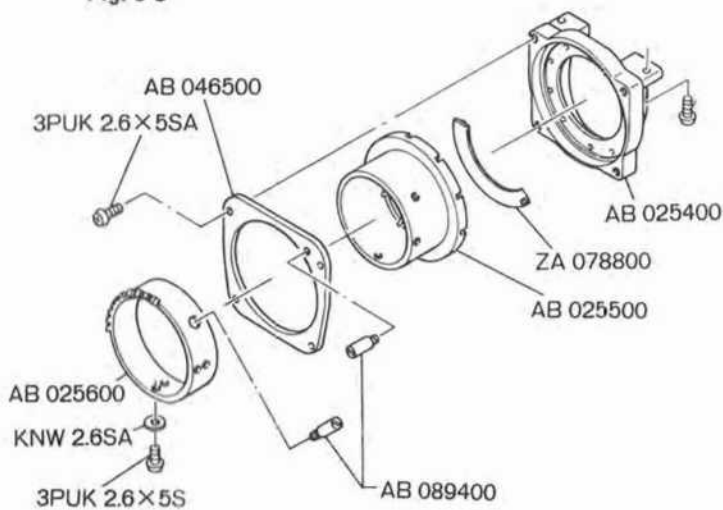

Fig. 5-6
- 5-2-2 Detach Circular Rack AB025600 by removing Screw 3PUK2.6x5SA. (See Fig. 5-6.)
- 5-2-3 Detach Plate AB046500 by removing four Screws 3PUK2.6x5SA. (See Fig. 5-6.)
- 5-2-4 Remove Rotary Frame AB025500. (See Fig. 5-6.)
- 5-2-5 Remove Diaphragm Blades ZA078800. (See Fig. 5-6.)
#### 6-2-1 Assemble Diaphragm Blades ZA078800 with Diaphragm Frame AB025400. (See Fig. 5-6.)
#### 6-2-2 Assemble Rotary Frame AB025500 in position. (See Fig. 5-6.)
#### 6-2-3 Position Plate AB046500 by tightening four Screws 3PUK2.6x5SA. (See Fig. 5-6.)
#### 6-2-4 Assemble Circular Rack AB025600 in position by tightening Screw 3PUK2.6x5SA. (See Fig. 5-6.)